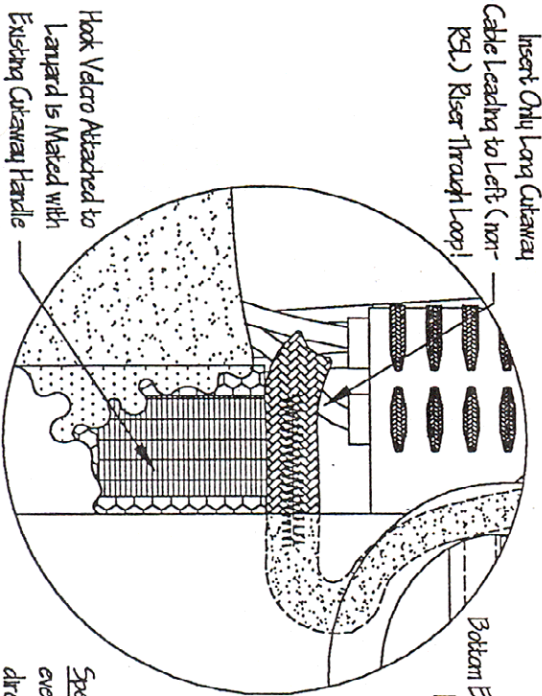

Figure 4B
7) The yellow hook Velcro attached to the lanyard is mated with existing cutaway handle pocket Velcro, behind cutaway handle. (Figure 4B)